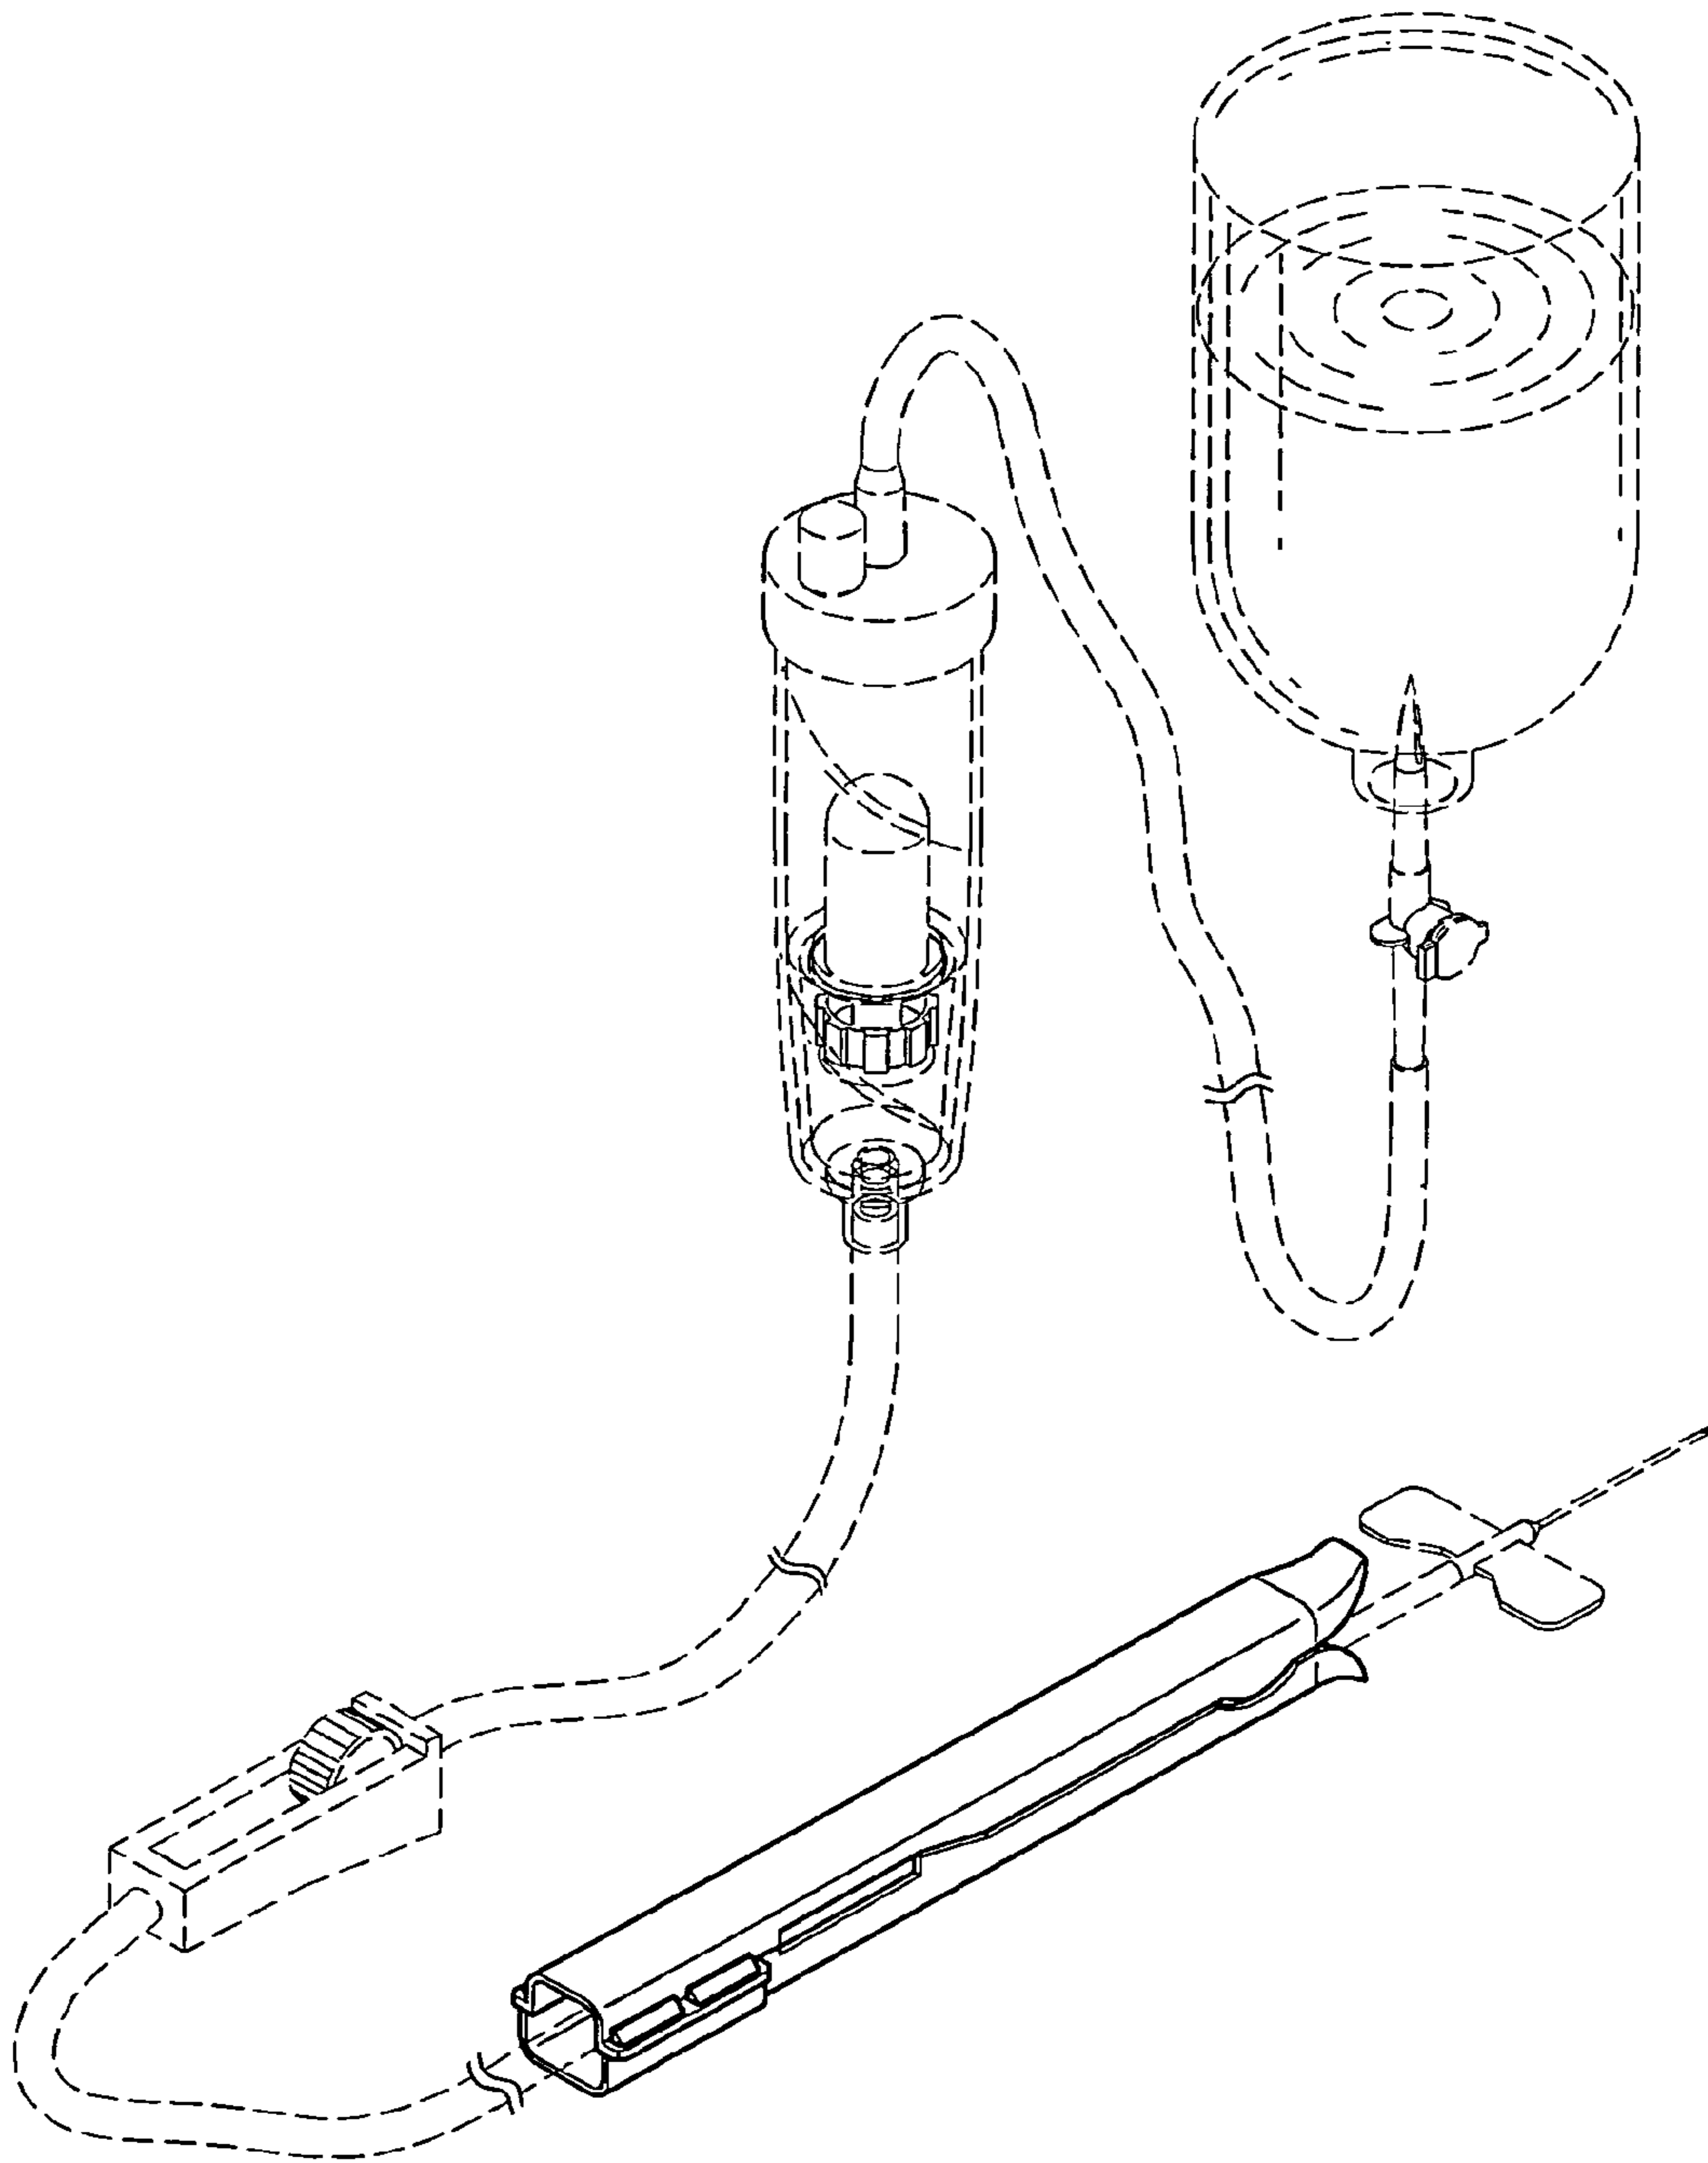

FIG. 10
FIG. 10 is a perspective view showing the safety protective sheath for butterfly needle assembly in ready use for an intravenous (IV) fluid flow control device, the broken line showing of a butterfly needle assembly and the intravenous fluid flow control device in FIG. 10 forms no part of the claimed design thereof; and,